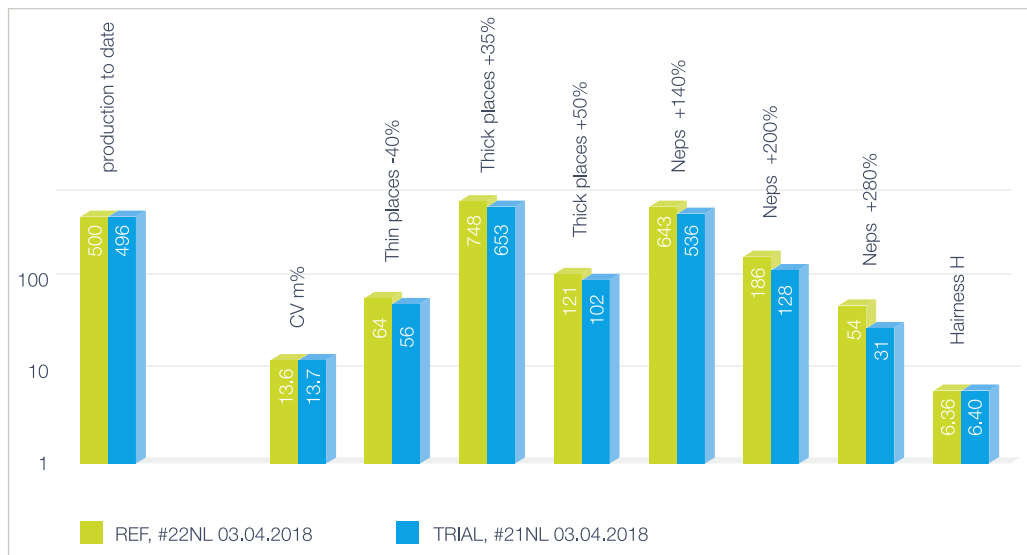

Fig. 9: Results from a spinning trial measured with an UT5-S800
**Analysis: See table 4 and figure 9.**